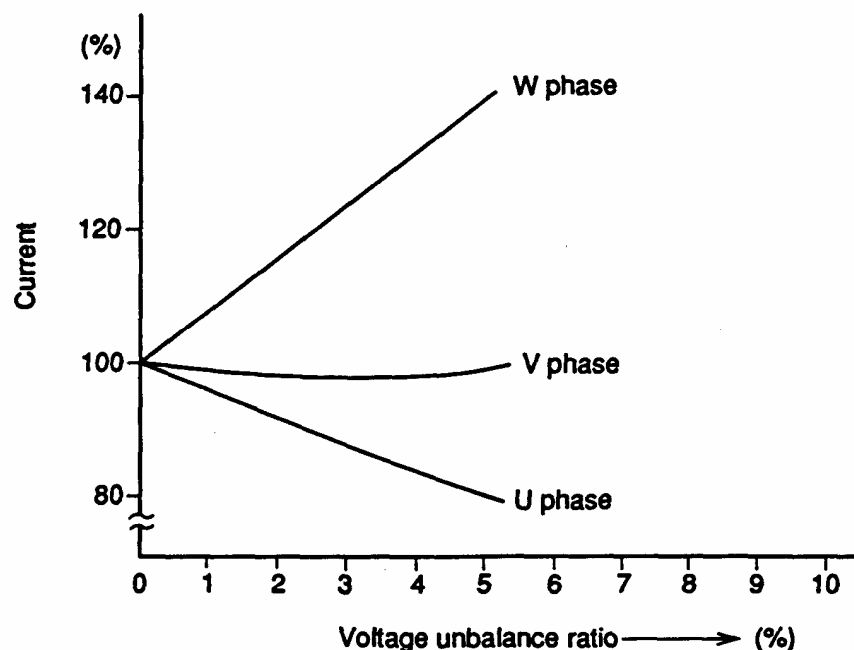

Fig. 14 Each phase current affected by unbalanced voltage (example)
- (a) When the motor is operated with unbalanced voltage, the current for each phase will be shown in Fig. 14. With unbalanced voltage, the input will increase while the output, torque and efficiency will decrease. As is obvious from Fig. 14, the phase carrying the larger current may be overheated extremely, namely, the life of its winding will be short, and at the same time the power cost will be high as the result of increased loss. In addition, if the unbalanced voltage is large, there is danger of increasing the vibration or noise.